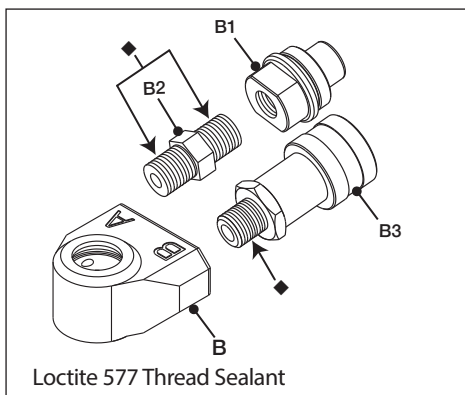

Fig. 25
Refer to Fig. 21 and Fig. 25 for swivel components.
**NOTICE** If removed, reinstall the couplings (B1 and B3) and adapter (B2) before installing the swivel (B) on the swivel post (F). Use a vise with soft jaws to hold the swivel as couplings and adapter are installed.
- Apply Loctite 577 sealant to threads on female coupling (B3) and adapter (B2). See ( ) in Figure 25 for locations.